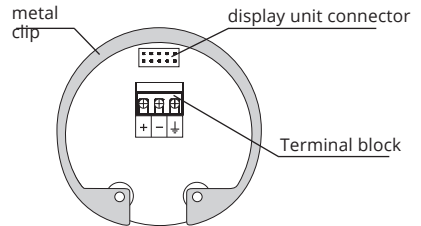

Fig. 17: Inside view of screw terminals of the level meter with current output ULM-70_---I
5. Connect the cable to the screw terminals according to the diagram in Fig. 17 or 18. Firmly tighten the terminals and the cable outlet.